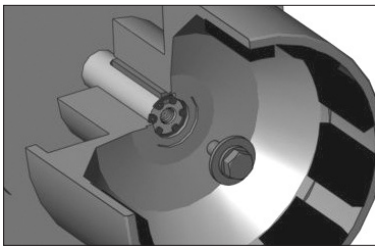

Figure 6
**Metric Motors:** Secure the drive to the motor shaft using bolt, lock washer and flat washer (items 25, 26, 27). Thread the bolt into the end of the motor shaft (while holding the outer drive to prevent it from turning). See figure 6.